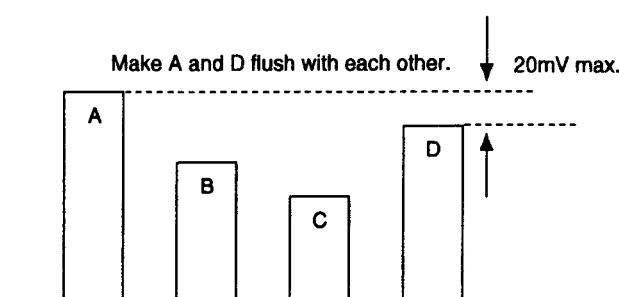

Fig. 5-23
- 2) Adjust [CHROMA NTSC 443 ACC OFF] in the same way as 10-9-4). (Fig.5-23)